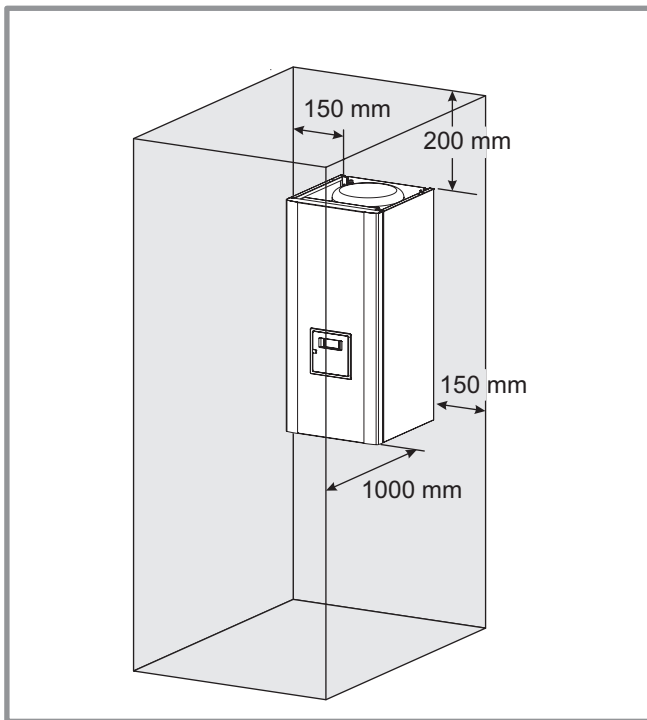

figure 13 - Minimum installation clearances around the hydraulic unit and distances to the combustible partitions
- To facilitate maintenance and to allow access to the various components, we recommend that you provide sufficient space all around the hydraulic unit (figure 13).